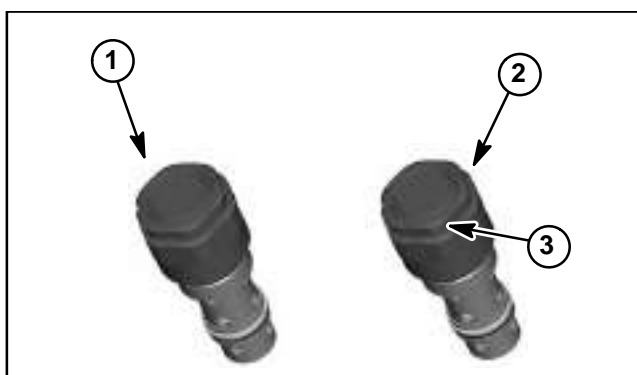

Figure 115
32. Thread relief cartridges into correct center case ports and torque from **24 to 27 ft-lb (32 to 37 N-m)**. The reverse relief valve cartridges can be identified by the groove in the hex head (Fig. 115).